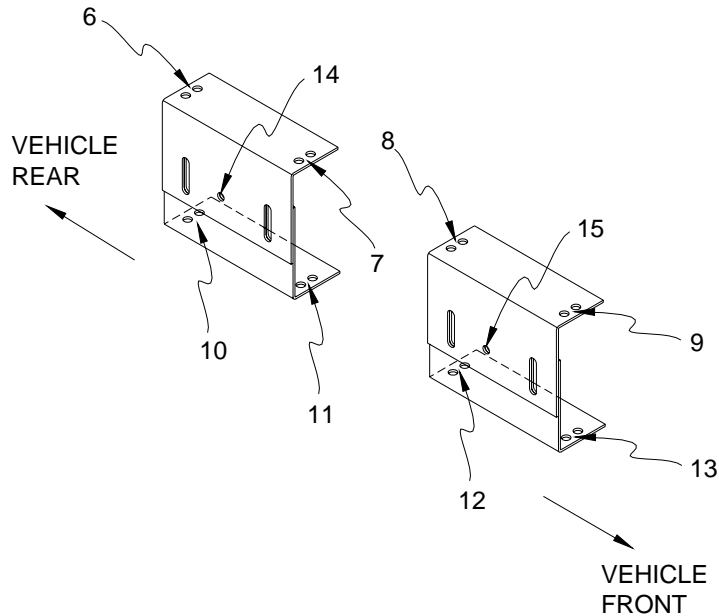

FIGURE 2-6: STEPWELL BRACKET HOLE LOCATIONS
- 3) Refer to **Figure 2-6** on the following page. Match and align top holes of stepwell brackets 6, 7, 8, and 9, with baseplate holes 6, 7, 8, and 9. Mark lower stepwell bracket holes 10, 11, 12, and 13 onto vehicle step.